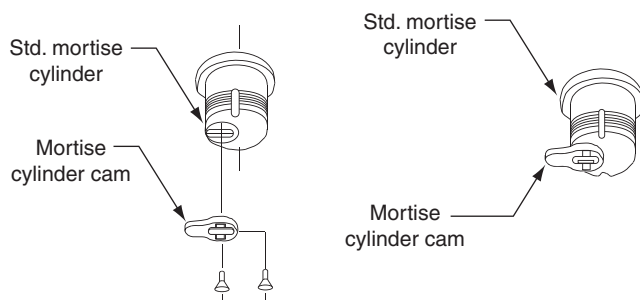

Figure 1
- Remove mortise cylinder cam and reinstall in reverse (Figure 1).